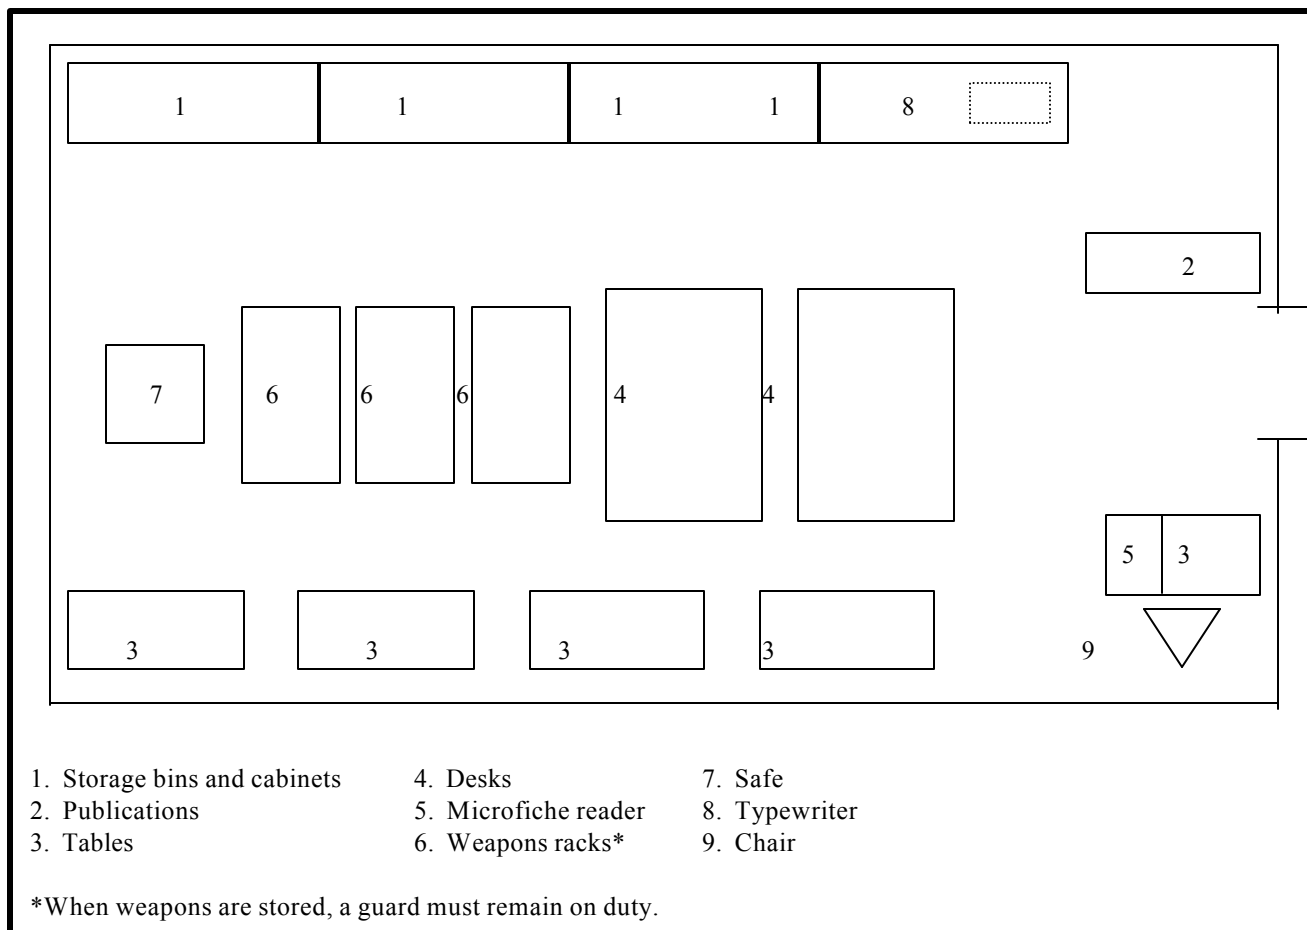

Figure 4-3. Sample Layout Plan in a Medium GP Tent
- Develop a layout plan (Figure 4-3, page 4-18)